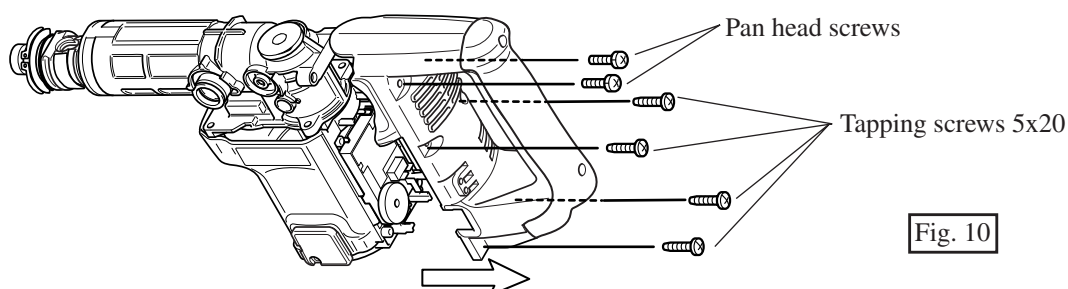

Fig. 10
(3) Disassemble handle section by unscrewing 2 pcs. of pan head screws M5x20 and 4 pcs. of tapping screws 5x20 as illustrated in Fig. 10.